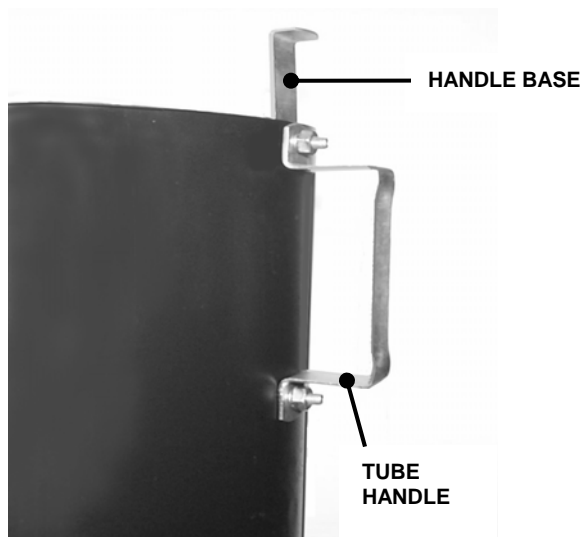

FIGURE 1.16
- A. Attach Tube Handle and Handle Base to Tube before installing Tube to catcher. Insert (2) 1/4-20 x 3/4" Carriage bolts through Handle Base and holes in Tube as shown. See Figure 1.16. Place Tube Handle over bolts followed by 1/4" Internal Tooth lock washers and secure with (2) 1/4-20 hex nuts. Tighten securely.